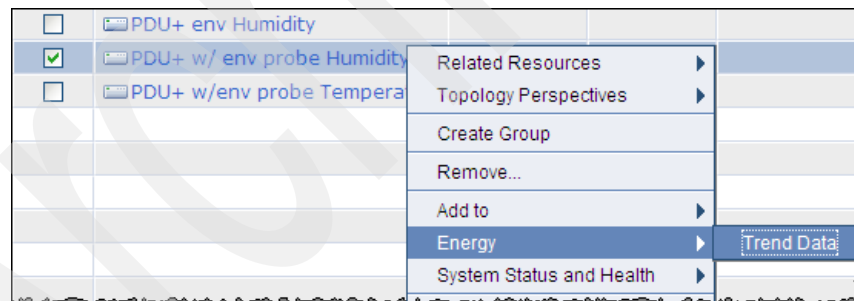

Figure 8-48 Viewing the humidity-trend data of PDU+ w/ env probe Humidity
4. To view the humidity-trend data for this PDU+, right-click **PDU+ w/ env probe Humidity** and select to **Energy** → **Trend Data** as shown in Figure 8-48.